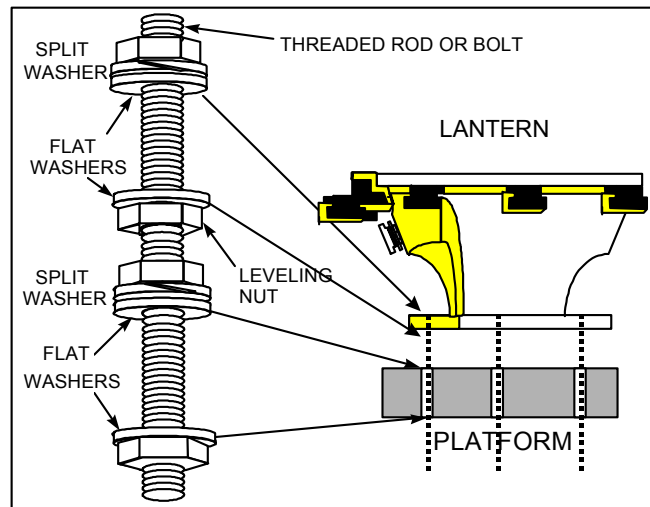

Figure 3-11
- a. Install three  $\frac{1}{2}$ " threaded rods or bolts on the platform as shown in Figure 3-11. Add the leveling nut and flat washer at this time.